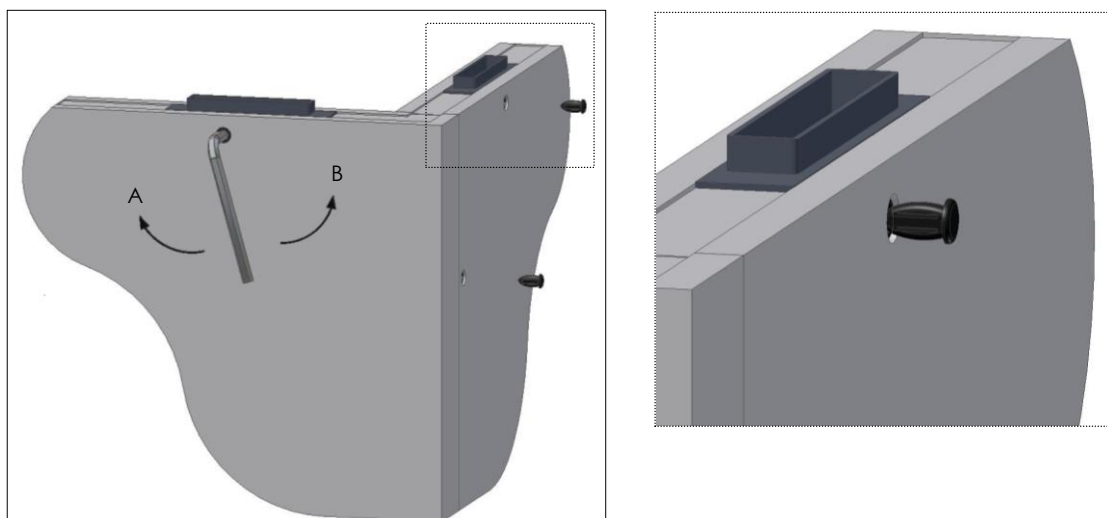

Fig. 11
- Turn the screwdriver like the hands of a clock fill it stops. (Fig.11 – Position **A**);
- Turn the screwdriver on the other sense fill it fastens. (Fig.11 – Position **B**)
- After fastening, insert the **screw caps** in the holes (Fig. 11).